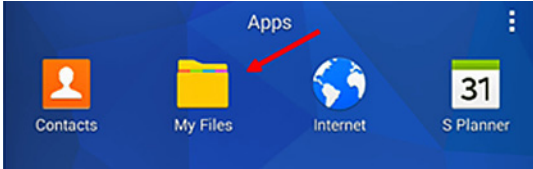

Figure 3: The “My Files” Folder
1. Open the “My Files” folder on the tablet screen (see Figure 3 below) and select the APP from the SD folder.